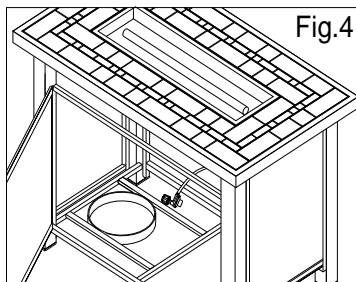

Fig.4
- 1- Open the door and control valve outside. See Fig 4.